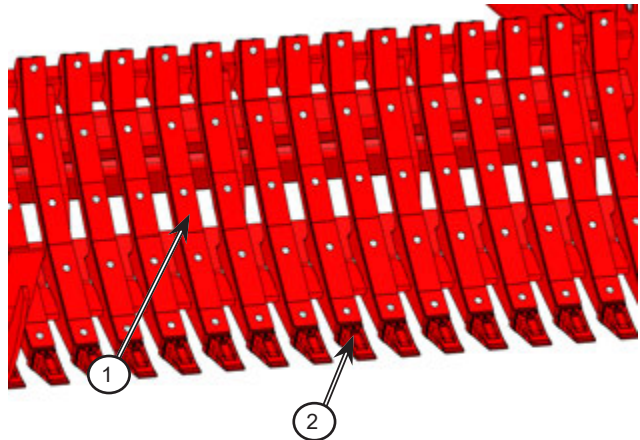

Figure 4.20: Check the condition of the tines
- 6. Check the condition of the tines; see Figures 4.20 and 4.21.
- a. Check that the top of the tines (wear plates) (1) are tight and not missing any fasteners. Tighten as required.
- b. Check that the replaceable tine tips (2) are in good condition, and the spring pins in each are centered and not loose or damaged.
- c. Check that the bolt (3) fastening each tine onto the apron is tight. Tighten as required.